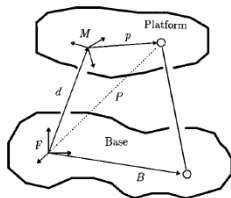

Fig. 2 An SS chain with fixed pivot $B = (B_x, B_y, B_z)^T$ and moving pivot $P = (P_x, P_y, P_z)^T$ in the fixed frame F
J. Mechanical Design, 2001, Fig. 2.